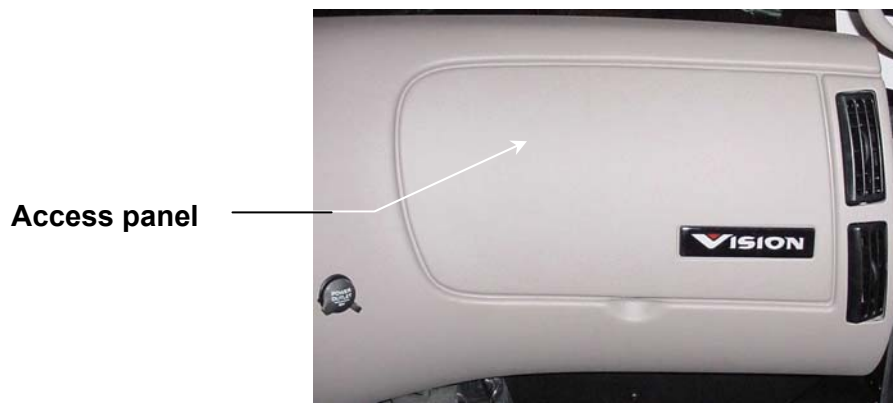

Figure 6: Data Bus Access Panel
- 8 Remove the data bus access panel (see Figure 6, below).